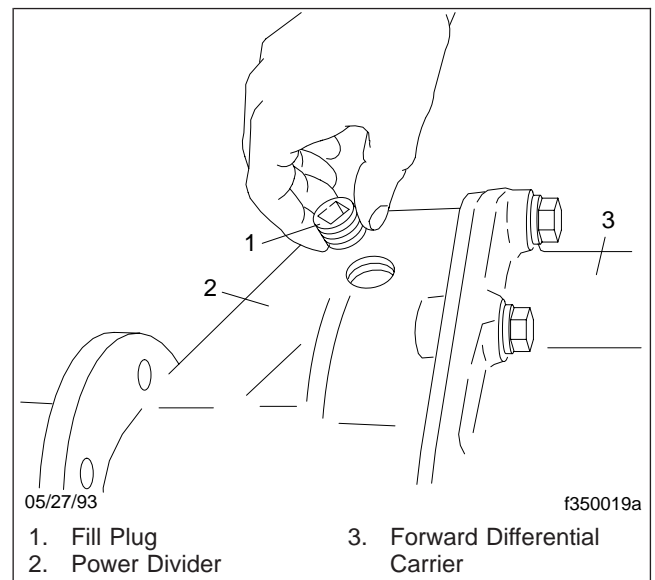

Fig. 7, Power Divider Fill Plug
- 8.3 For forward drive axles, remove the power divider fill plug, located slightly offset to the right in the top portion of the forward differential carrier. See **Fig. 7**. Add two pints (1 L) of lubricant through this fill hole. Do not use the hole at the top of the differential carrier as a fill hole. Install and tighten the fill plug 40 to 60 lbf-ft (54 to 81 N·m).